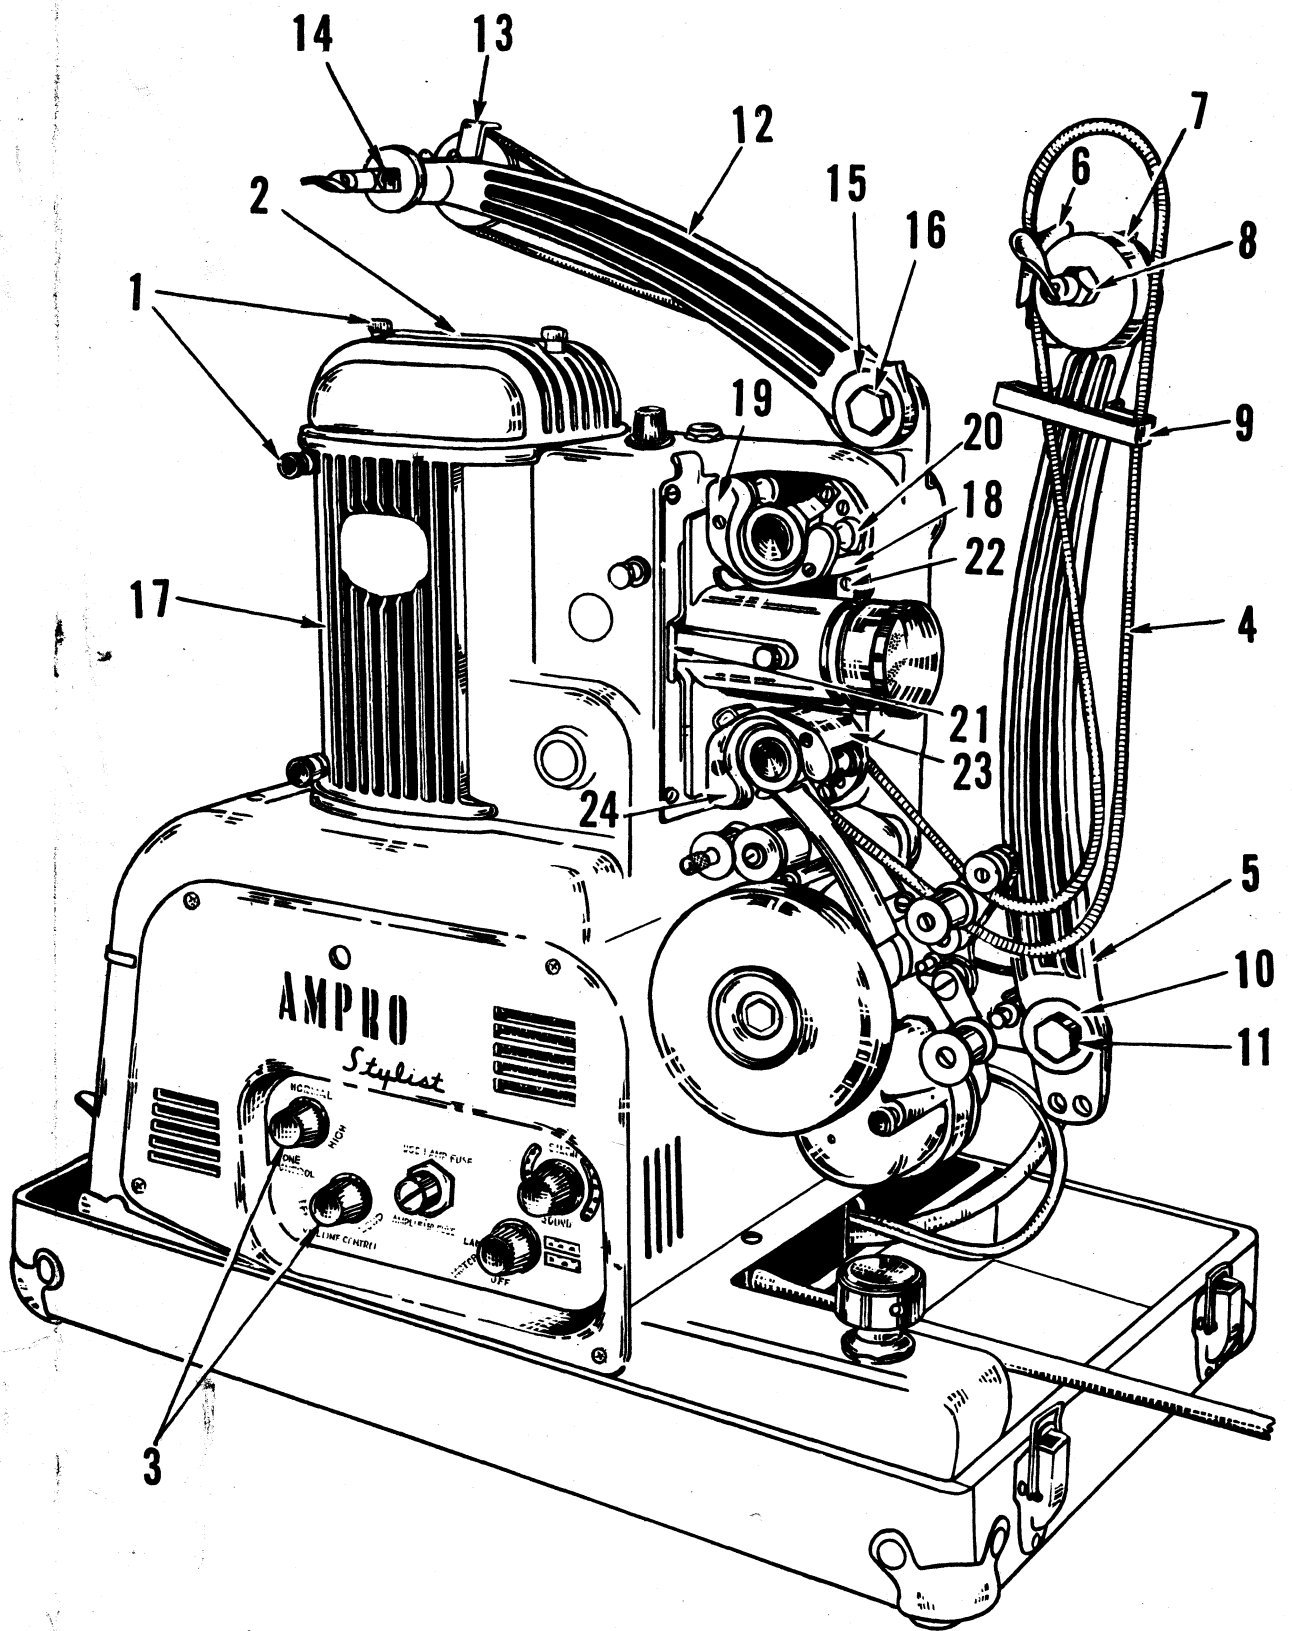
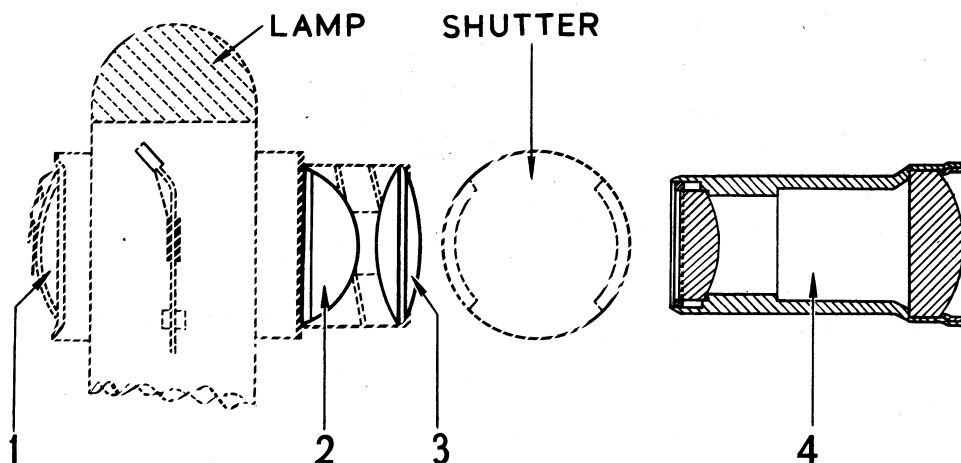

Fig. 1
Fig. 3
(d) Remove sprocket shoe covers (19 and 24 Fig. 1). Pull off eight guide rollers and wash rollers and pins with C.T.C. Re-oil pins. Clean follower roller assemblies (unless very dirty these need not be removed from sprocket shoe). Run the projector slowly and brush the sprocket teeth and body keeping the brush at right angles to the axis of the sprocket to prevent it from being drawn between the sprocket and the shoe. Check that:-
- (b) Remove the front cover (17 Fig. 1) and clean the condenser lenses and reflector with lens tissue. Remove dust and dirt from heat shield. Check that:-
- (1) Lenses and reflector are free from cracks and blemishes.
- (2) Condenser lenses are correctly positioned (see Fig. 3).
- (3) Heat shields are not bent or damaged.
- (4) Projector lamp in good condition and firm in socket.
- (5) Interrupter shutter is damaged and does not foul casting or shuttle shield.
- (6) Adjusting screws for interrupter shutter are tight.